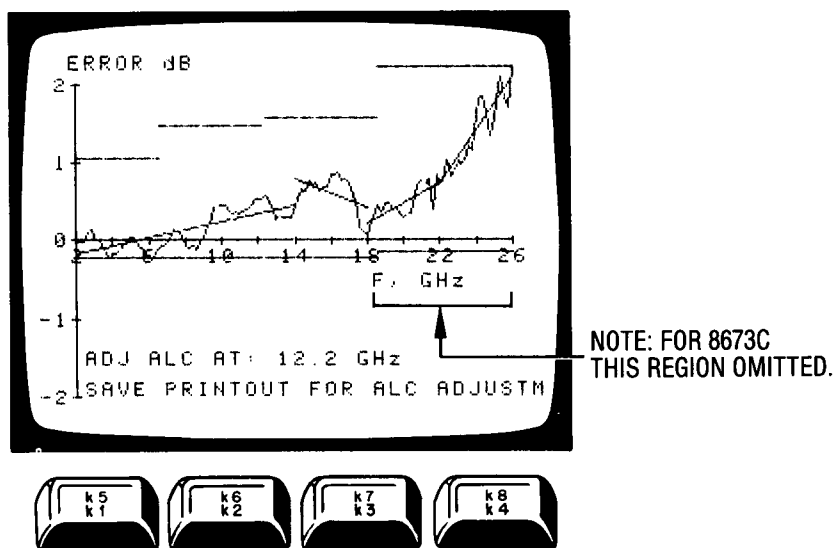

Figure 5-39. Typical Flatness Plot Before Adjustment
- c. A copy of the flatness plot is printed. See Figure 5-39.